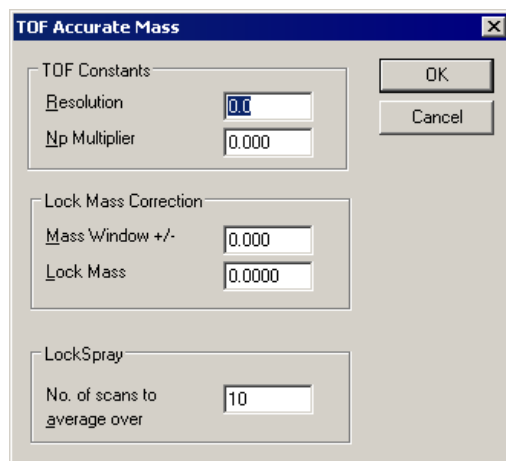
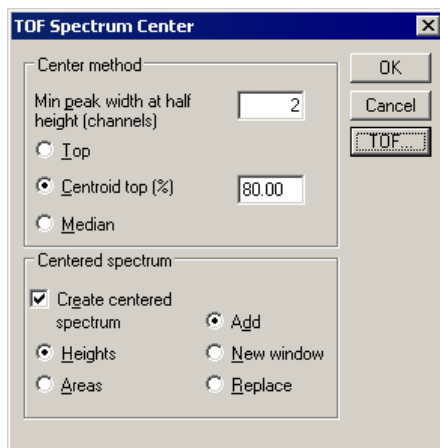

Figure 7-5 The TOF Accurate Mass dialog
Figure 7-6 The TOF Spectrum Center Dialog
1. Select **Process > Center** from Spectrum, this invokes the **TOF Spectrum Center** dialog (Figure 7-6). Select the **TOF** button from this dialog to invoke the **QTOF Accurate Mass** dialog. Check that both the resolution and Np multiplier are set to 0 (Figure 7-5).
2. Center the Spectrum with the values shown in (Figure 7-6).
1. Acquire a spectrum of PEG at the higher concentration of **10 nl/ml** and create a centered spectrum with no lock mass and no correction. (All parameters set to zero.)(Figure 7-5)